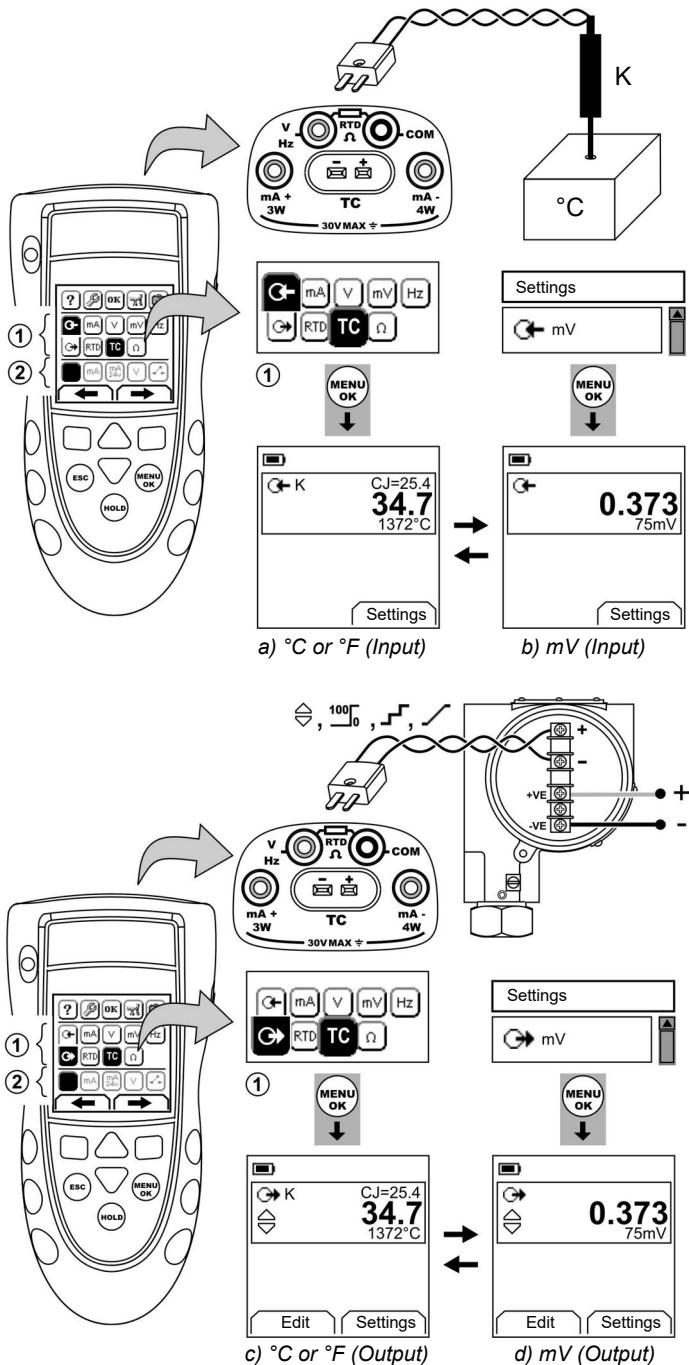

Figure 9: Example configuration - To measure/simulate the temperature (°C/F) or mV values of a TC
Attach the TC wires to the applicable TC mini-connector (Figure 9). The wider blade is the negative. Then attach the connector to the instrument.
1. Connect the instrument (Figure 9) and, if necessary, adjust the *Set Up* (Table 1).